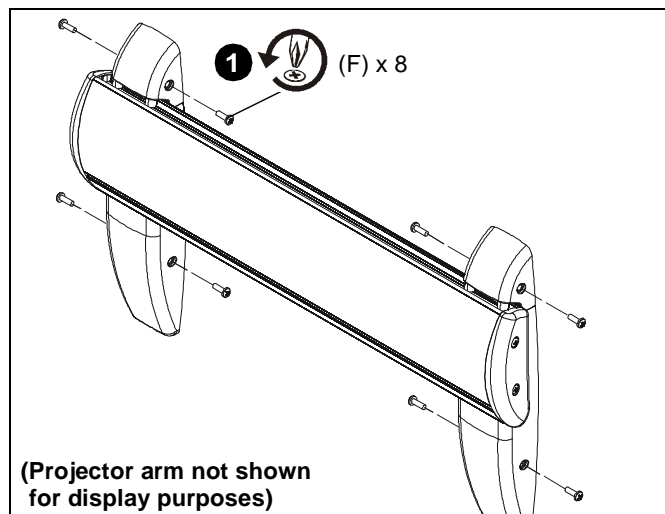

Figure 67
1. Remove eight #8-32 x 1/2" Phillips pan machine screws (F) from wall bracket covers. (See Figure 67)